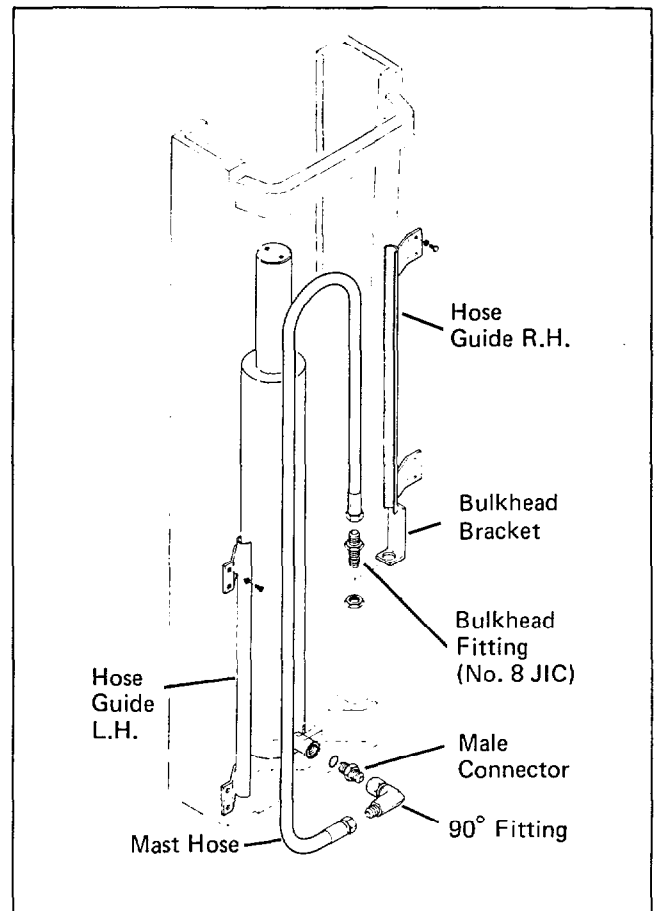

Figure 3-2 Mast Hosing
3. Disconnect and cap the supply hose from the lift truck and the cylinder supply hose. See figure 3-2.